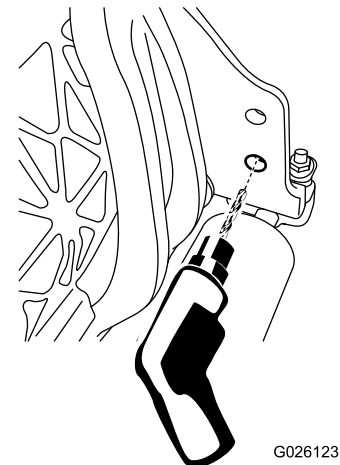

Figure 14
1. Enlarge the lower hole on the right side of the cutting unit using a 9 mm (23/64 inch) drill bit (Figure 14).